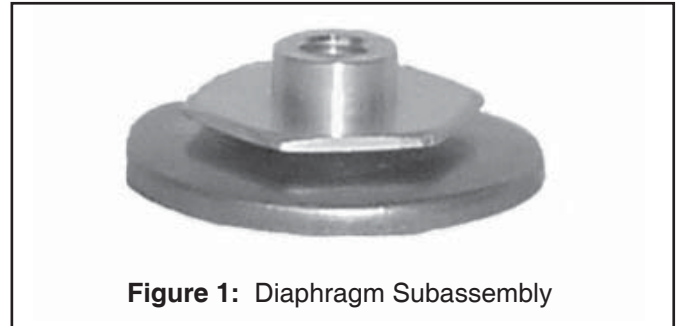
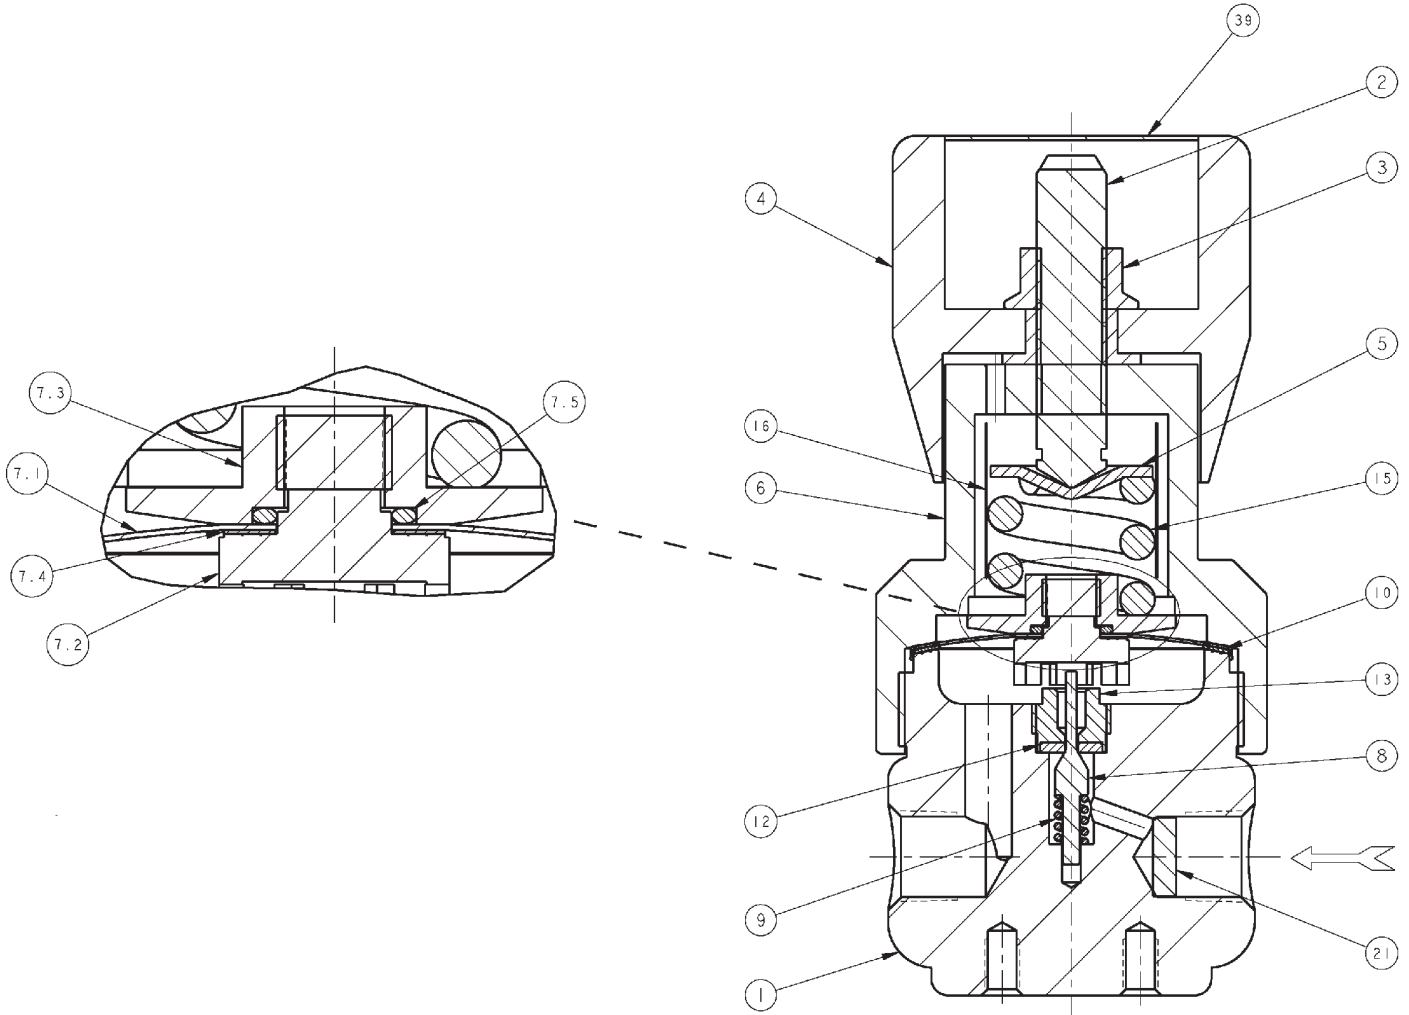

Figure 1: Diaphragm Subassembly
Figure 2:
3. Refer to Figure 2 for basic regulator and Figure 1 for the diaphragm subassembly.